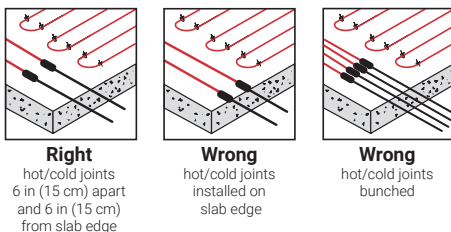

Figure 9: Positioning hot/cold joints
- Position hot/cold joints 6 in (15 cm) in from edge of heated area and spaced at least 3 in (7.5 cm) apart from each other (do not bunch hot/cold joints – see Figure 9).